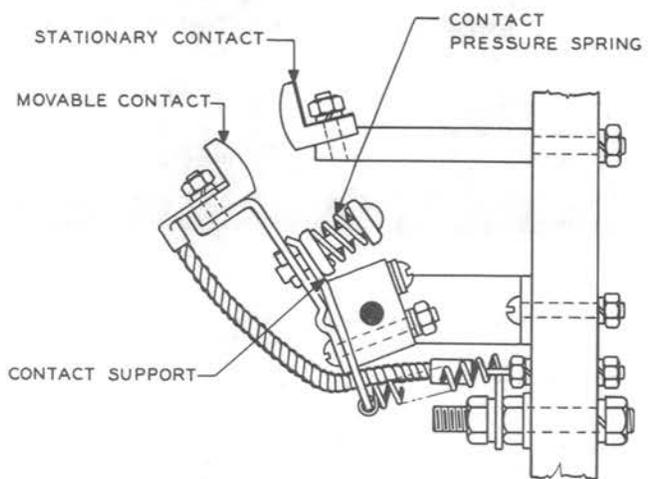

Fig. 6—Ward Leonard Bulletin 4401 Contactor
(1) For contactors of the general type of the Ward Leonard Bulletin 4401 (Fig. 6), measure contact separation of NC contacts with the contactor operated and of NO contacts with the contactor released. Adjust by shaping the movable contact support.